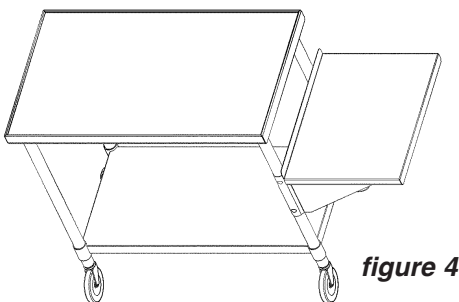

figure 4
- (4) Stand table upright on its casters, and tighten all hardware securely. *See figure 4.*